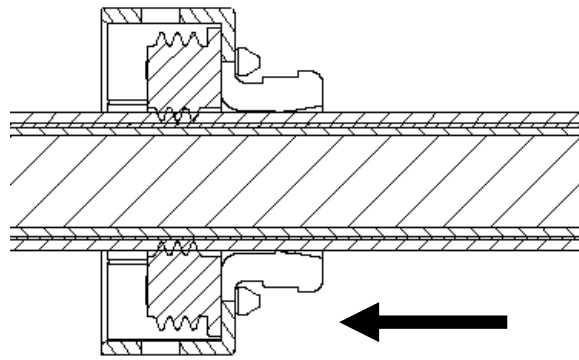
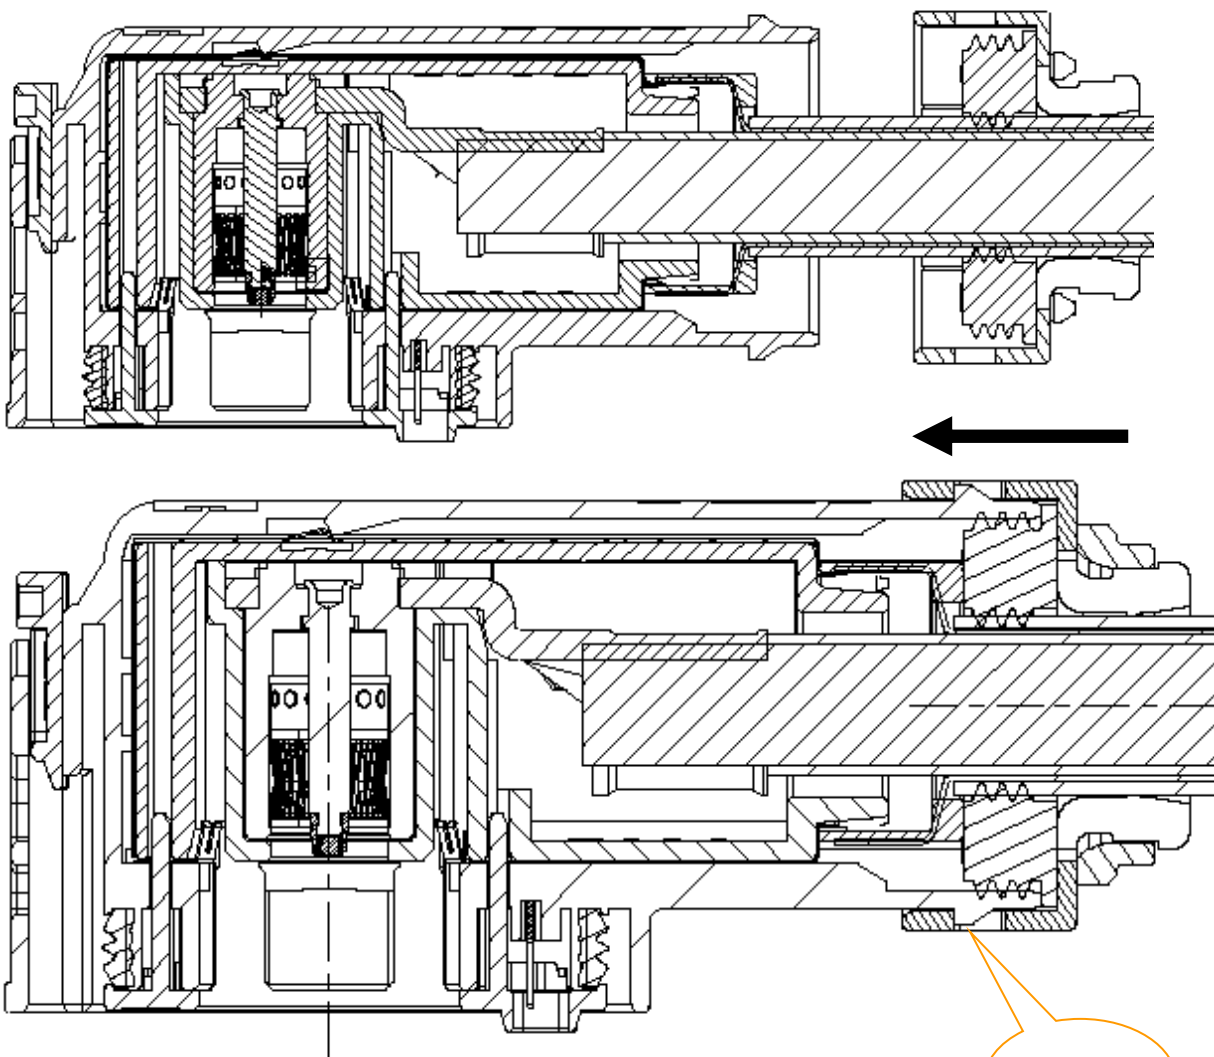

Figure 16: Mounting cable seal assy. on cable
Figure 17: Assembly cable seal assy.
A. Slide cable seal assy. onto plug housing as shown in figure 16, until it is fully locked by audible latching as shown in figure 17.